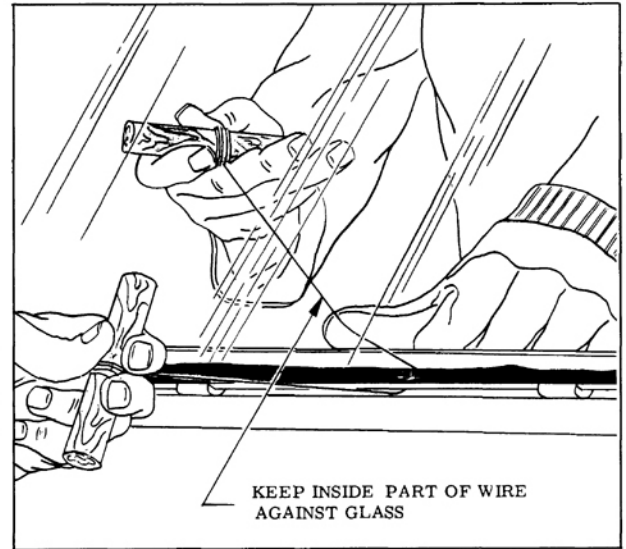

Fig. 16-305 Removing Windshield
6. With aid of helper, carefully cut (pull steel wire) through caulking material, up side of windshield, across top, down opposite side and across bottom of windshield. (Fig. 16-305) Make sure inside wire is held close to plane of glass to prevent cutting an excessive
6. With aid of helper, carefully cut (pull steel wire) through caulking material, up side of windshield, across top, down opposite side and across bottom of windshield. (Fig. 16-305) To facilitate cutting through rubber spacers, use a sawing motion with steel wire. Avoid contact of steel music wire with instrument panel and windshield pillars by keeping inside wire close to plane of glass. Keep tension on wire throughout cutting operation to prevent kinks in wire.